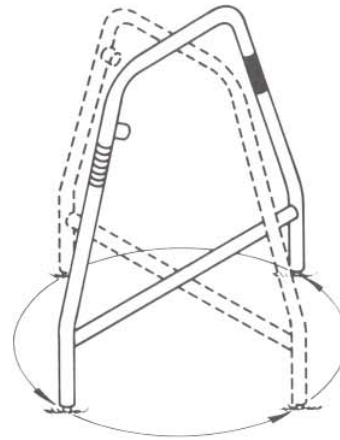

Fig. 17 — 90° Rotation Check
- 6) To verify the fault location, rotate the frame, still centered over the fault, 90° to the cable path. Repeat the above procedure to locate the point of meter reversal; this pinpoints the exact location of the fault (see Fig. 17).